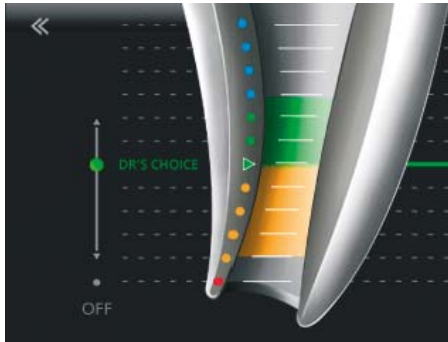

Fig. 23 DR'S CHOICE is set
- Having set this variable apical line at the preferred position, e.g. at the last green bar (Fig. 23).